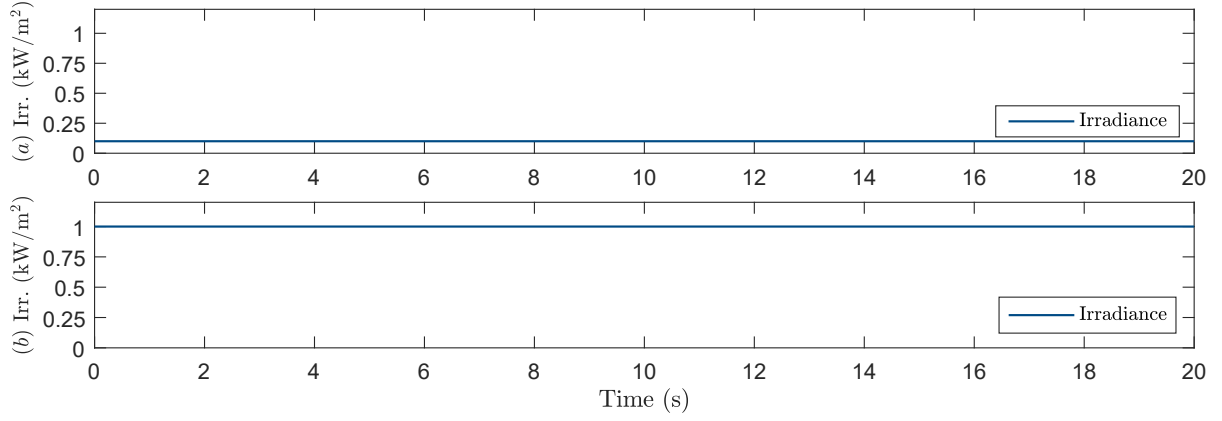

Fig. 7: Minimum and maximum irradiance generated from PV emulator.
- Test 0:** Steady-state inverter performance at MIN% (MIN W/m^2). -See Fig. 7(a) in the test report- this definition of MIN irradiance is quite ambiguous. Can we perform a low irradiance test instead, say 50 or 100 W/m^2 .
- Test 1:** Steady-state inverter performance at 100% (1000 W/m^2). -See Fig. 7(b) in the test report-